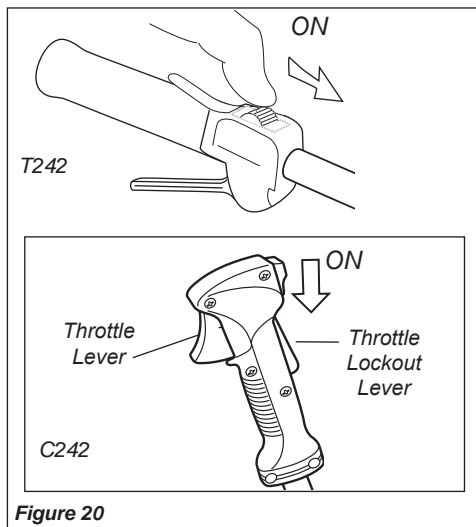

Figure 20
- Slide the ignition switch to the "ON" position. See Figure 20.